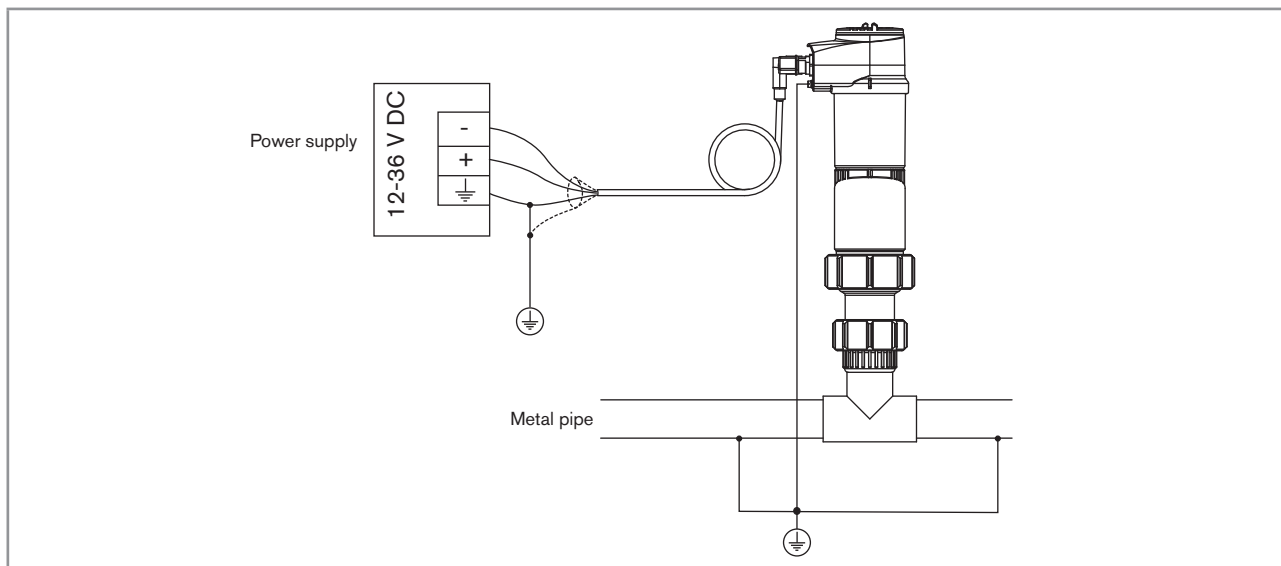
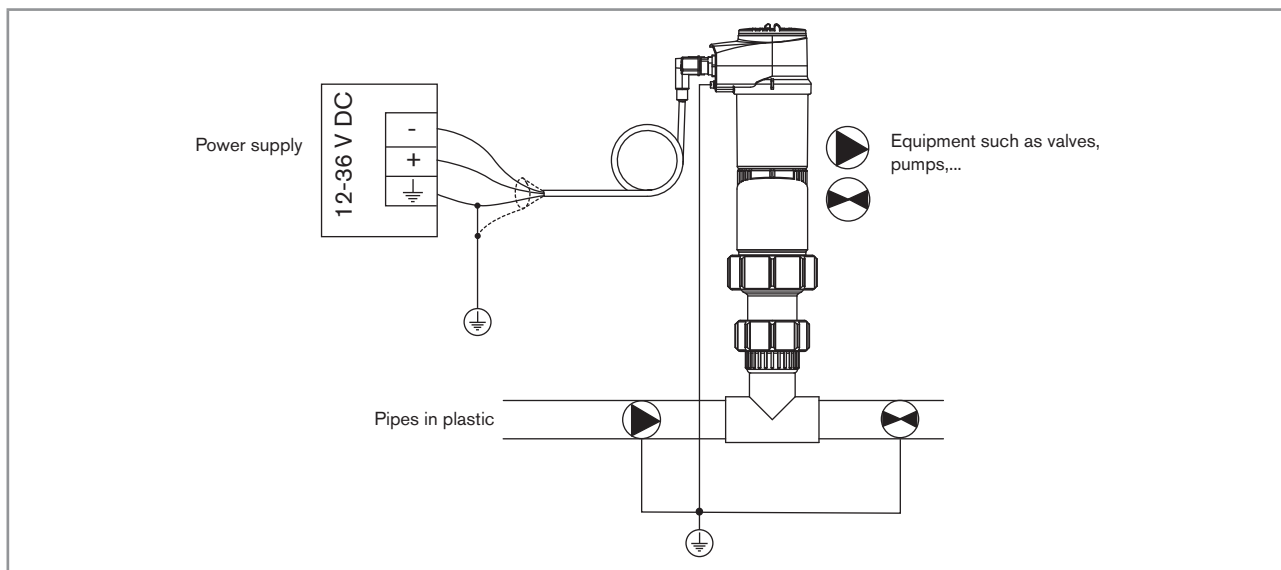

Fig. 18: Equipotentiality skeleton diagram with pipes in metal
Fig. 19: Equipotentiality skeleton diagram with pipes in plastic
- Observe faultless grounding of the shield of the power supply cable. Refer to Fig. 18 and Fig. 19.
→ If the device is installed on plastic pipes, earth together the metallic equipment such as pumps or valves, that is as close as possible to the device. Refer to Fig. 19.